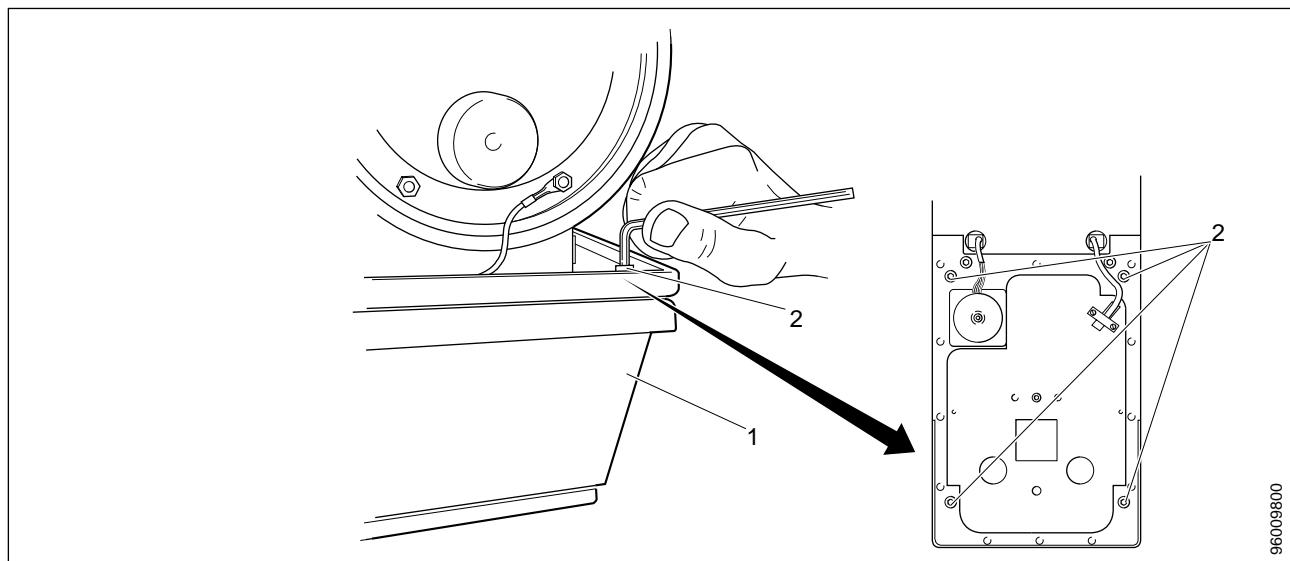

Fig. 2 Removal of collimator cover
3. Remove the collimator cover (1/Fig. 2) by unscrewing the four Allen screws (2/Fig. 2).
**Do not remove any other screws than (2/Fig. 2).**
4. Let the cover (1/Fig. 2) hang down from the diaphragm holder cable.